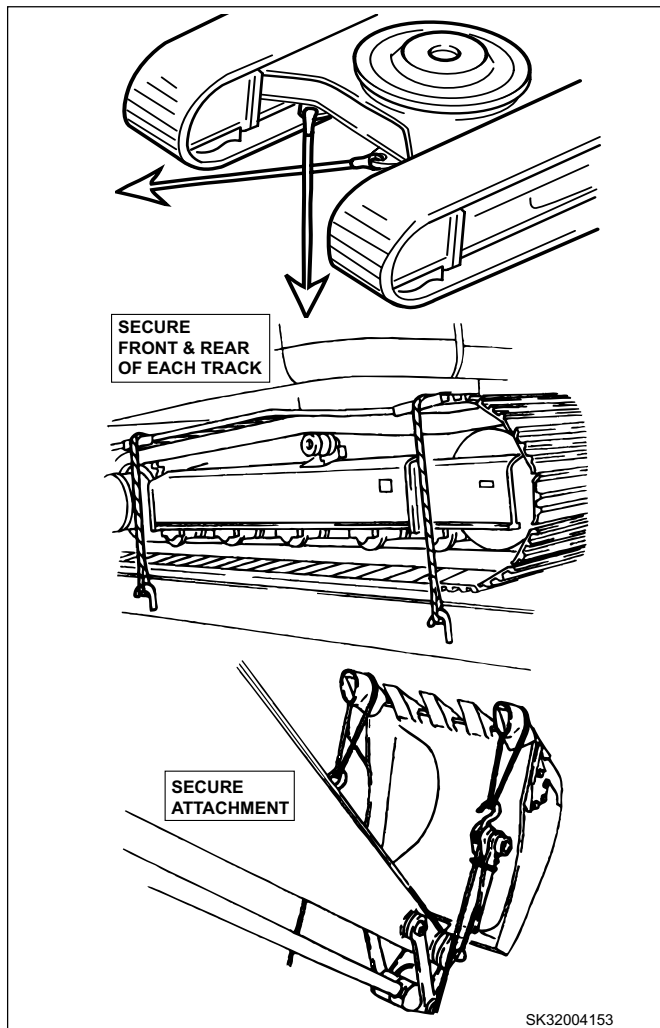

FIGURE 5.5A
- Use cable or wire rope with sufficient capacity to secure front and rear of the machine to trailer. See Figure 5.5A. Chock the tracks, use the lower frame front and rear brackets to secure machine to trailer. Also, make sure to secure front and rear of each track.